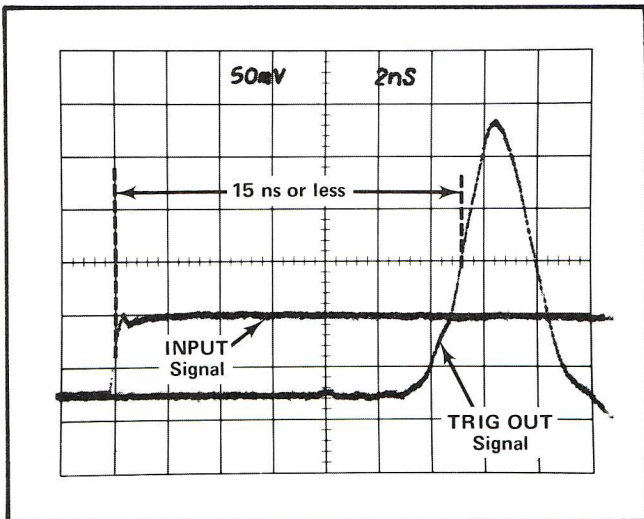

Fig. 5-2. Double exposure photo showing the INPUT signal to TRIG OUT delay time.
e. Observe the TRIG OUT signal. Check the position of the TRIG OUT signal leading edge at the 50% amplitude point to be 15 ns or less from the reference point (Pulse Output leading edge) set in part c. See Fig. 5-2.